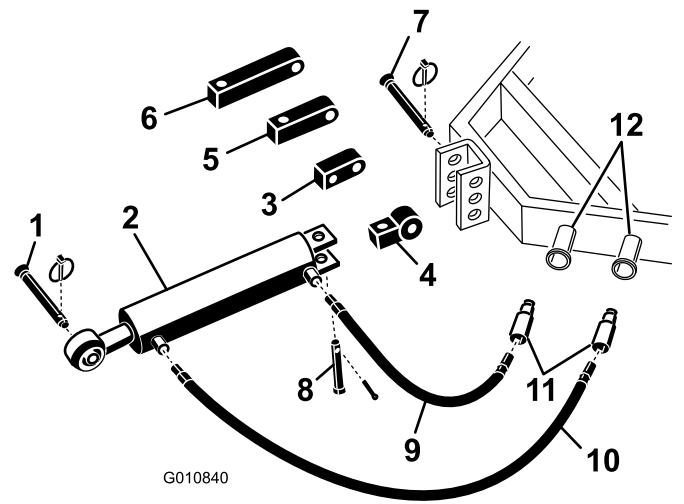

Figure 5
1. Secure the connecting link end of the hydraulic top link to the tractor with the pins supplied with the tractor (Figure 5). Position the hydraulic top link so the rod end is toward the aerator. The cylinder ports should be positioned toward the tractor's auxiliary power hydraulics.
Note: If the hydraulic cylinder must be positioned with the ports facing upward, use the rotational block instead of the standard mounting block to reposition the cylinder (Figure 5).
- A. Remove the cotter pin and pin securing the standard connecting link to the cylinder (Figure 5). Remove the connecting link from the cylinder.
- B. Install the rotational block to the cylinder with the pins previously removed (Figure 5).
2. Connect the 3-1/2 foot long hydraulic hose to the hydraulic top link port which is closest to the aerator (Figure 5). Apply Teflon tape or pipe thread sealant to the hose threads to prevent any leaks.
3. Connect the 2-1/2 foot long hydraulic hose to the hydraulic top link port which is closest to the tractor (Figure 5). Apply Teflon tape or pipe thread sealant to the hose threads to prevent any leaks.
If the hydraulic cylinder does not reach the aerator mounting bracket, use an extension block instead of the standard mounting block to connect the cylinder to the tractor (Figure 5).
- B. Install the required length extension block to the cylinder with the pins previously removed (Figure 5).